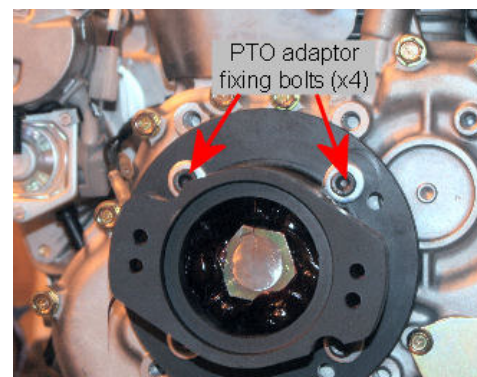

Fig 5-19 PTO adaptor fixings
2. Remove the four bolts securing the Power Take-off Adaptor to the engine (Fig 5-19).